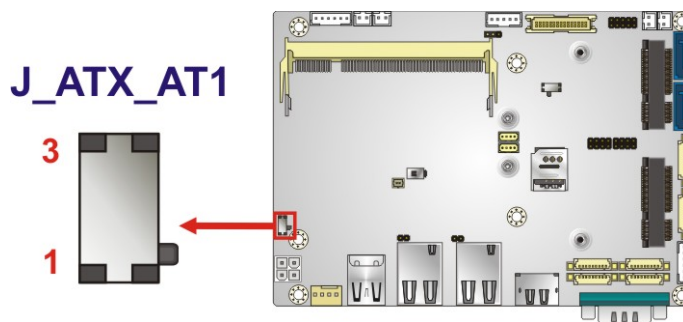

Figure 4-9: AT/ATX Mode Select Switch Location
CN Location:	See Figure 4-9
The location of the AT/ATX mode select switch is shown in **Figure 4-9** below.
- CN Location:** See Figure 4-9
The location of the switch is shown in **Figure 4-9** below.